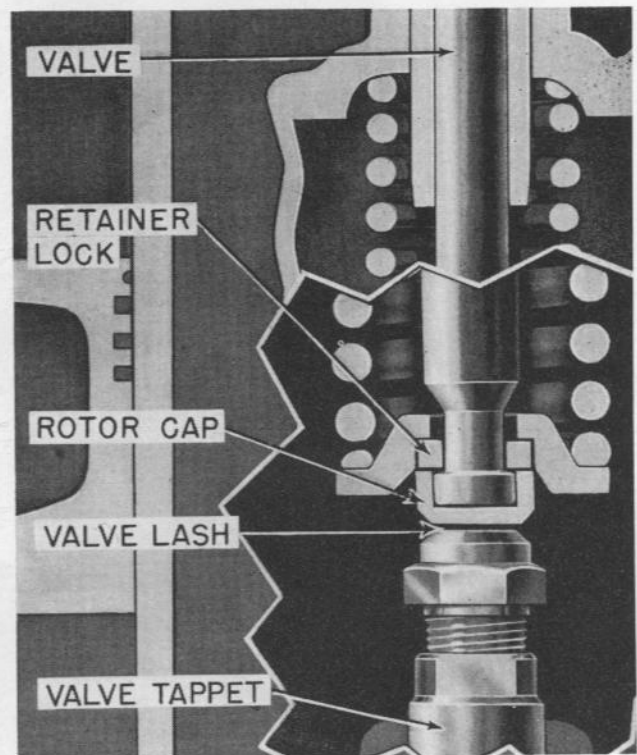
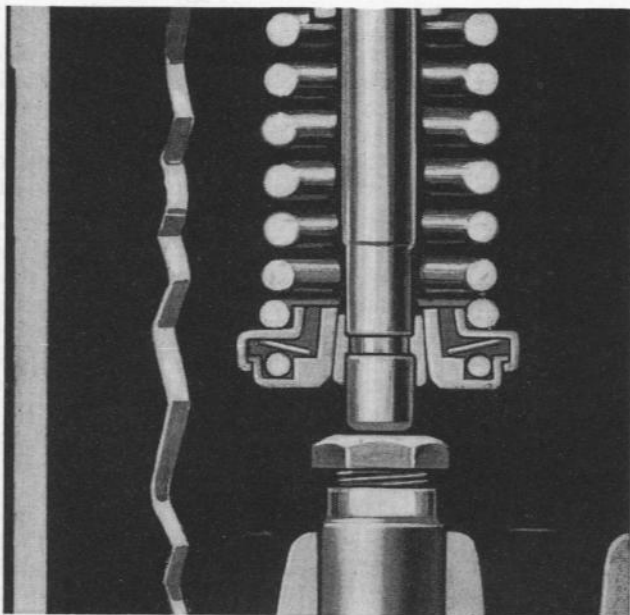

FIG. 51—VALVE WITH ROTOR CAP
FIG. 52—VALVE WITH BEARING TYPE ROTATOR
equipped with devices which cause the valve stems to rotate in operation. "Free" valve operation of some valves is provided through the use of caps placed over the lower ends of the valve stems as shown in Fig. 51 and others through the use of ball bearings built in the lower spring retainers as shown in Fig. 52. Adjustment of all valves, regardless of type, may be made with the engine either hot or cold.
Adjust the intake valves, with the engine running, to .018" clearance. Adjust all exhaust valves whether of the "free" type or not at .016". Should the "free" type valve having a cap mounted on the lower end as shown in Fig. 51 develop some noise when adjusted at .016" (.406 mm.) the clearance of this type valve only may be reduced to a minimum of .012" (.304 mm).
15. Some engines are equipped with "free" type valves with a ball bearing built as part of the spring retainer as shown in Fig. 52. The procedure of removal and installation is obvious. Other engines are equipped with "free" type exhaust valves as shown in Fig. 51. This valve is of special design at the lower end and is equipped with a rotor cap, which contacts the spring lock as the valve is raised to release the spring pressure allowing the valve to turn when in an open position. Due to the necessary accurate fitting of the cap and valve locks, it is **IMPORTANT THAT THE VALVE PARTS BE KEPT TOGETHER AS SETS AND NOT INTERCHANGED.** With a valve spring compressor inserted between the valve tappet and spring retainer, raise the springs on the valves which are in a closed position and remove the valve locks. Turn the crankshaft until those valves which are open are closed and remove the remaining locks.
The rotor parts when new are made to be interchangeable. When correctly fitted there is from .000" to .004" (.000 to .1016 mm.) clearance between the bottom of the valve and the cap when the upper edge of the cap contacts the spring retainer locks as shown in Fig. 51. This clearance is just sufficient to allow the cap to raise the locks, as the valve is opened, to relieve spring pressure and allow the valve to rotate a small fraction of a revolution during each lift cycle. There is some wear of the rotor parts, however, this wear is compensating so that clearance changes little. For this reason it is essential that both the locks and cap be reinstalled on the valve from which they were removed with the worn face of both locks contacting the upper edge of the cap. Should the contact face of the locks be badly worn, install a new cap and new locks or in the absence of new locks, turn the old ones over to provide a new wearing surface. After the valves are installed, turn the engine until each valve is successively wide open. Try each valve for free operation by turning it. If they turn with slight effort, there is sufficient clearance for free operation. Maximum up and down clearance in the cap may be measured by mounting a dial indicating gauge on the valve head and measuring the vertical movement of the valve without compressing the spring. Should there be insufficient clearance to provide free operation, grind a slight amount from the lower end of the valve stem. Should there be too much clearance, lap a small amount from the upper edge of the cap using fine emery cloth placed on a smooth surface.
Before starting the engine, which will heat the exhaust manifold, adjust the exhaust valve tappets. If equipped with "free" type valves of the type having caps over the lower ends as shown in Fig. 51, adjust them to .016" (.406 mm.), although the clearance of this type may be reduced to a minimum of .012" (.304 mm.) should objectionable noise be present. See step 6, Page 34. If standard type valves or those having ball bearings built into the spring retainers as shown in Fig. 52, adjust them .016" (.4064 mm.).